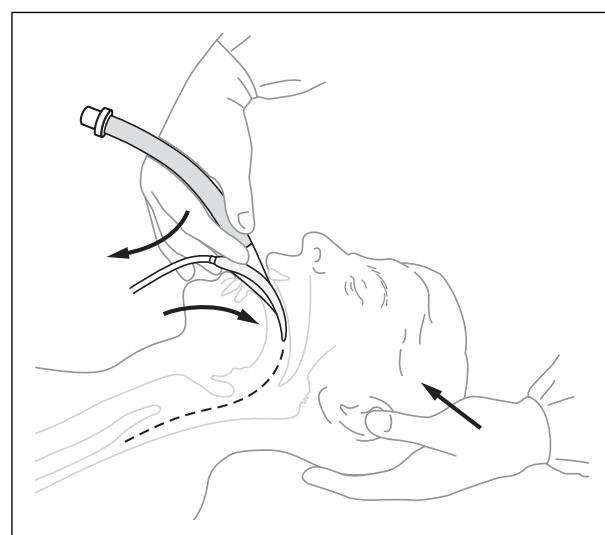

Figure 3
4. Using the index finger, push the mask backwards **still maintaining pressure against the palate** (Figure 3).